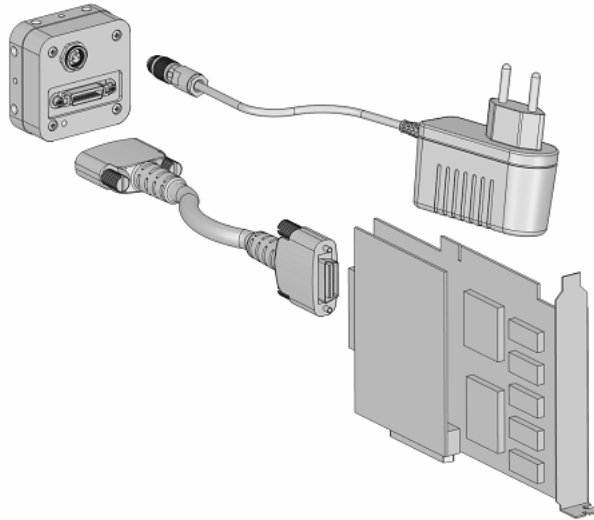

Figure 2.2: Camera with frame grabber , power supply and CameraLink cable.
5. Connect the camera to the frame grabber with a suitable CameraLink cable (see Fig. 2.2).
7. Connect the power supply to the camera (see Fig. 2.2).